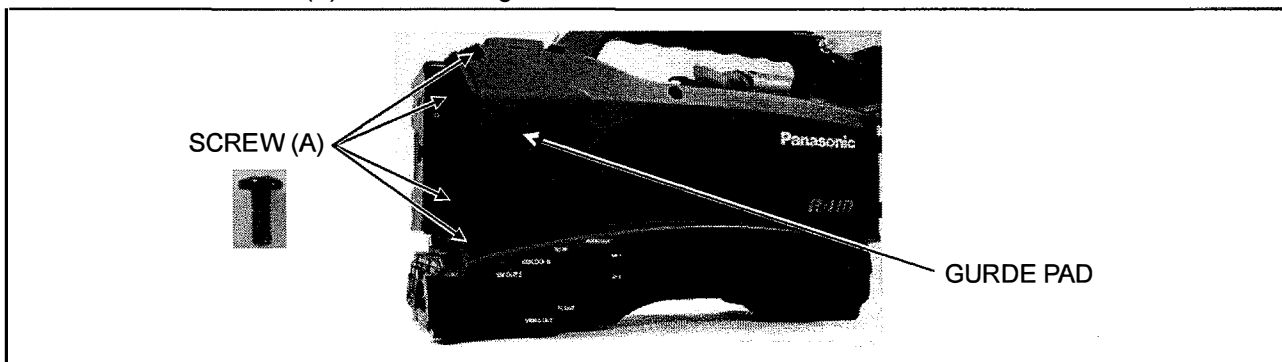

Figure 2-1
1. Unscrew the 4 screws (A) as shown in figure 2-1 and remove the GURDE PAD.